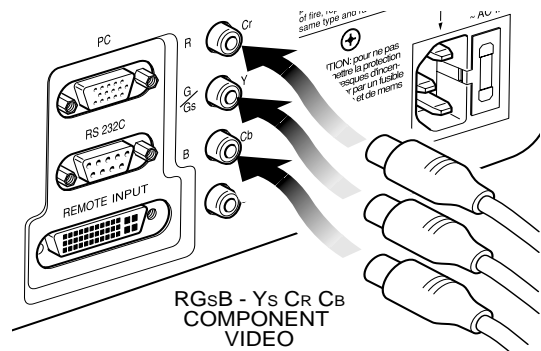

Fig. 38
This input is suitable for a RGB video signal, or for a Component Video (YCrCb) type, with composite synchronisation on the green signal (RGsB) or on the luminance (Y) signal (YsCrCb) through a cable with RCA/Phono type connector (Fig. 38).